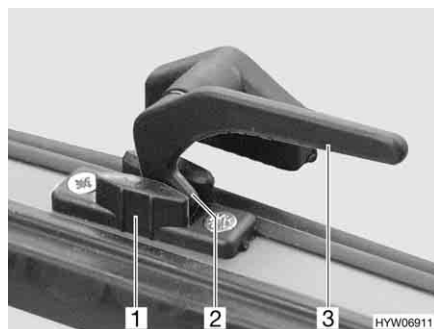

Fig. 48 Catch lever in the "continuous ventilation" position
- "Continuous ventilation" (Fig. 48)
- Turn the catch lever (Fig. 48,3) a quarter turn towards the centre of the window.
- Return the catch lever to its initial position. The locking catch (Fig. 48,2) has to be moved into the recess of window catch (Fig. 48,1).